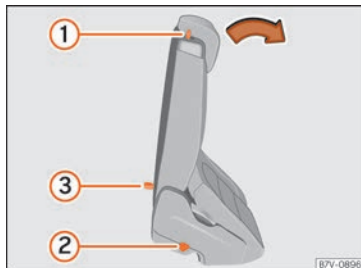

Fig. 137 Second row of seats:: access aid controls.
- Remove any objects located in the footwell of the second row of seats, where applicable »» ❶.
- Push the lever »» Fig. 137 ❶ forwards and fold the backrest of the rear seat. This seat folds forward completely »» ⚠ and can still be moved further forward.
- Make sure that the rear seat is securely engaged so that the seat belts can provide proper protection in the rear seats. The red mark »» Fig. 137 ❷ should no longer be visible »» ⚠ in **Folding the rear seats down as a cargo surface on page 144.**
If the lever »» Fig. 137 ❶ does not work, e.g. after an accident, the seats on the second row can be folded forwards from the third row to allow vehicle occupants of the third row of seats to get out of the vehicle »» ⚠.
- Pull the handle »» Fig. 137 ❸ back and fold the backrest of the rear seat. The complete rear seat folds forward »» ⚠.
- A red mark on the side of the seat »» Fig. 137 ② indicates that the seat backrest is not engaged. The mark is no longer visible when it is correctly engaged.